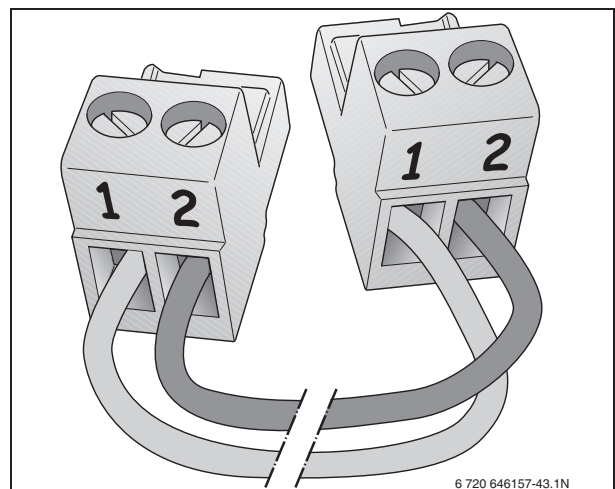

Fig. 43 EMS bus polarity
- Make an EMS bus connection cable using a 2-core cable and the connector enclosed with the module (fig. 43).